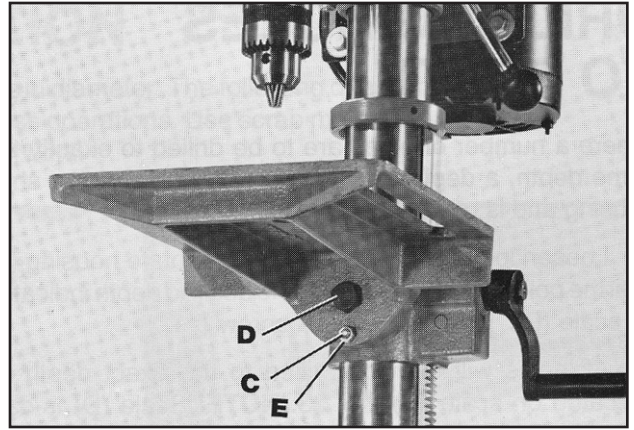

Fig. 20
3. The table can be tilted right or left by pulling out and removing table alignment pin (C) Fig. 20, and loosening table locking bolt (D). NOTE: If pin (C) is difficult to remove, turn nut (E) clockwise to pull pin out of casting. Tilt table to the desired angle and tighten bolt (D).